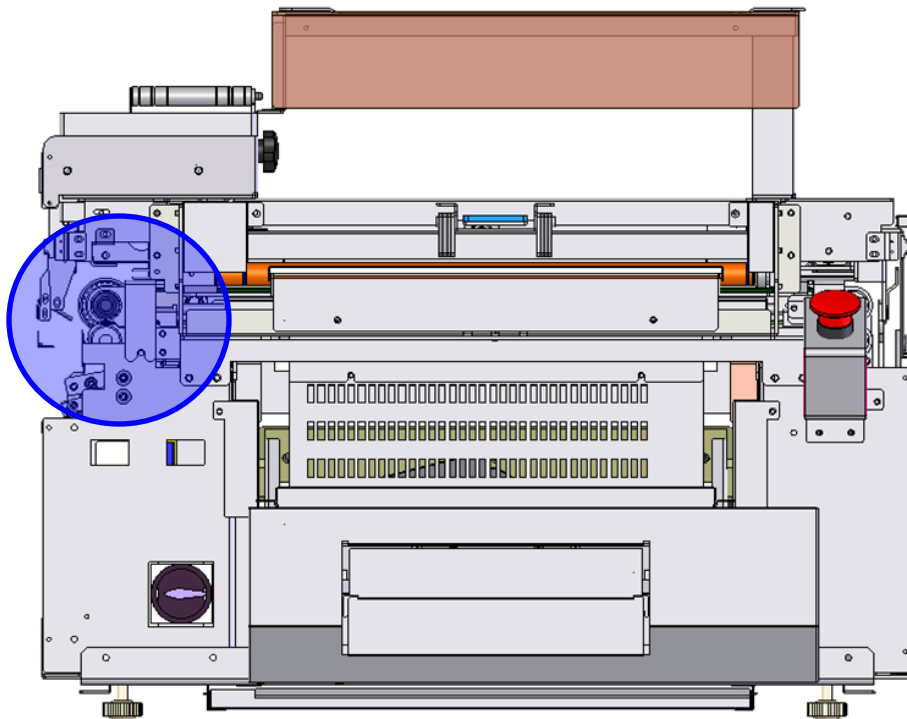

Figure 11.
16. Disconnect the three connectors at the front, left as indicated by the blue circle (X6P/X6F, B14, and R1). See Figure 11.